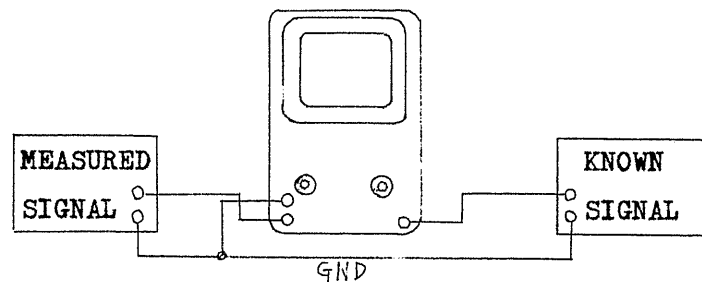

Fig. 6
Prepare a measuring setup as shown in Fig. 6 and display a Lissajous figure on the CRT screen. Measure the apparent phase difference (θ) in the same manner as the inherent phase difference (θ_0) is measured. The actual phase difference (θ_a) between input and output of the amplifier can be calculated as follows:
Set the SWEEP RANGE switch in the EXT HOR position, apply the measured signal to the vertical INPUT terminal, and apply a known signal to the EXT HOR terminal. (See Fig. 6.) Adjust both vertical and horizontal amplitudes at 4 cm with the VERT GAIN and HOR GAIN knobs, respectively. Vary the frequency of the known signal so that Lissajous figures as shown in WAVEFORM 6 are displayed. The figure will continuously vary in the order of (1) → (5) → (1) and will repeat this rotational cycle.